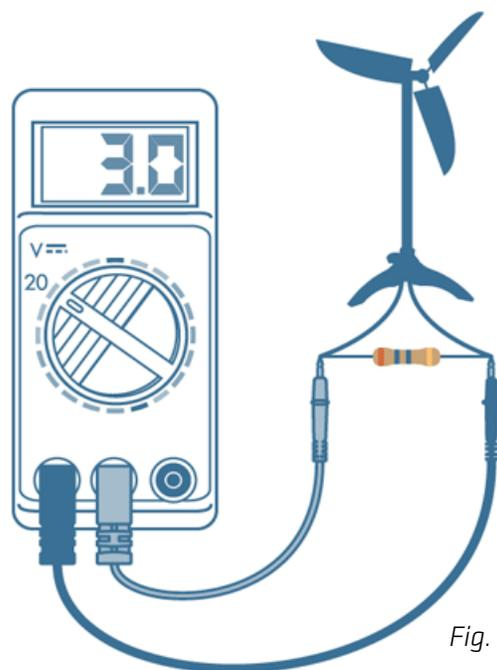

Fig. 3
- Measured voltage: What was the highest measured voltage across your resistor? You'll need a multimeter to know this (see Figure 3).